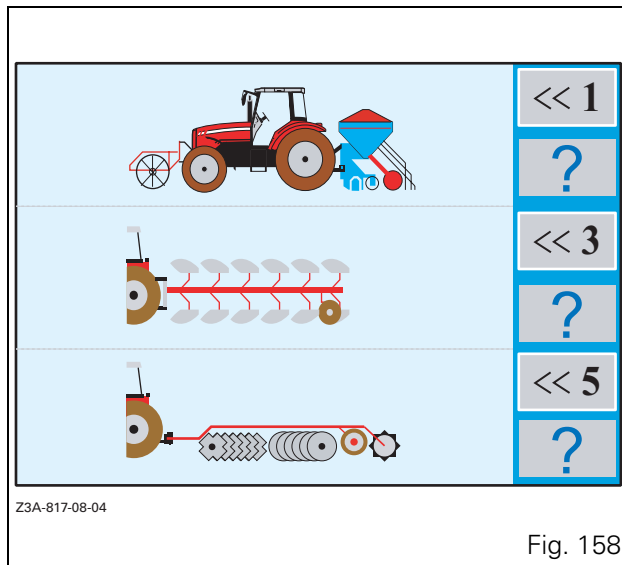
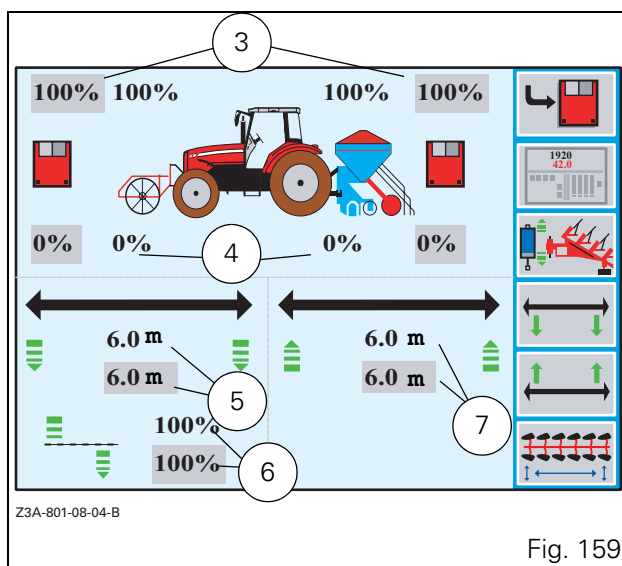

Fig. 158
Fig. 159
- press the encoder when the active function is highlighted by red text and a red rectangle around the icon (the window Fig. 158 is displayed).
- to exit an application, press the **ESC** key (2).
When the window (Fig. 158) is open, press the key «1». The window (Fig. 159) is displayed.
To carry out calibration, press the key $\ll_6$ when the window (Fig. 159) is open. The window (Fig. 161) is displayed.